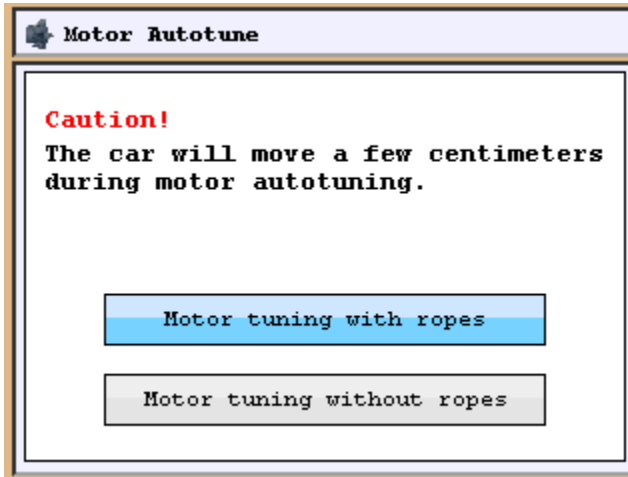
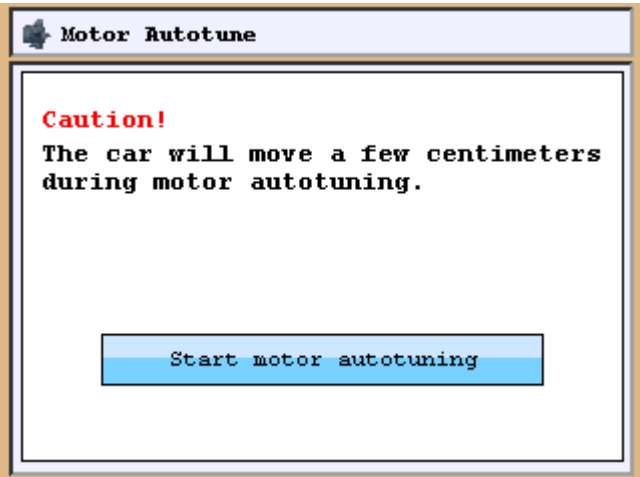

Figure-11b: Auto-tune starting screen for gearless
Figure-11c: Auto-tune starting screen for geared
- When pressed Enter button, if gearless machine is used, Figure-11b appears on the screen, if geared machine is used, there will be only 1 option for motor tuning which is like the Picture on Figure-11c. When pressed Enter button again, you will see “Turn the recall switch to INSPECTION position ”